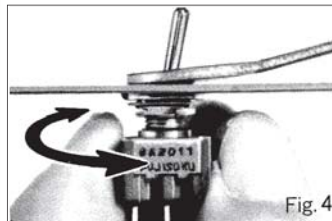

Fig.4
- (4) パネル取り付け時にスイッチ本体を手で回してパネルに締め付けることは避けてください。(Fig.4)
- (4) Do not turn the switch body to fasten it onto the panel. (Fig.4)
- (5) To reposition the switch, loosen the nut on the back of the panel, move the switch to the desired position and retighten the nut. Be careful rotating the switch body with the nut fastened will damage the switch.
- (6) After mounting the switch, do not place the device in such a way that the device weight will be applied on the knob of the switch. Do not press the knob of toggle switch or lever switch, or the button of the pushbutton switch with a load exceeding the specified load.
- (7) To replace the cap of the lever lock toggle switch (**8E** and **ATLE** types), set the knob in the locked position and tighten the cap with 9.8 to 14.7 N·cm torque.